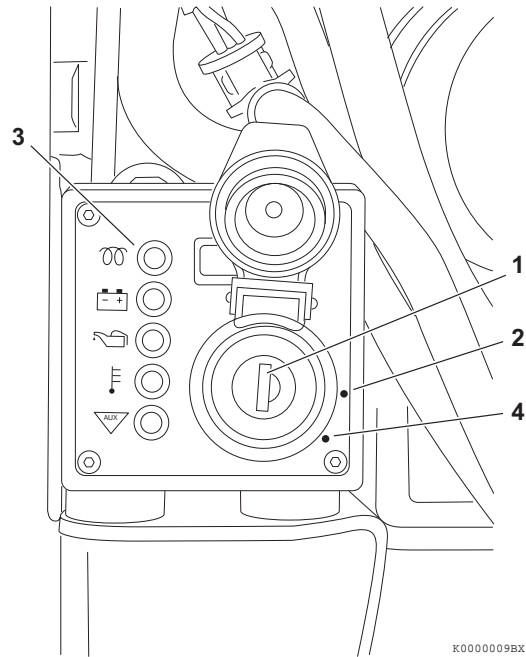
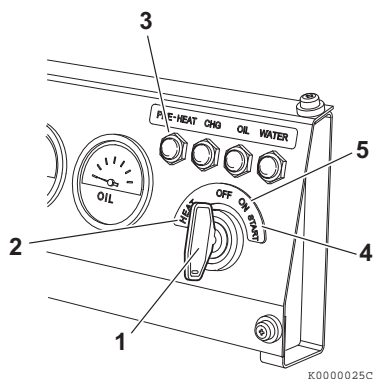

Figure 2
Figure 3
7. Insert the key into the key switch (**Figure 2, (1)**) or (**Figure 3, (1)**).
8. Turn the key to the ON position (**Figure 2, (2)**) or the HEAT position (**Figure 3, (2)**). The pre-heat indicator (**Figure 2, (3)**) flashes for several seconds and then goes out. After the pre-heat indicator goes out you can start the engine.
9. Turn the key clockwise to the START position (**Figure 2, (4)**) or (**Figure 3, (4)**). Release the key as soon as the engine starts. It will return to the ON position (**Figure 2, (2)**) or (**Figure 3, (5)**).